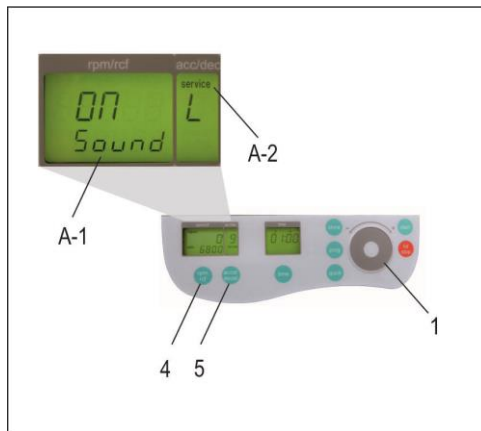

Figure 4
pressing the key, "rpm/rcf" (4), the word "On" flashes, and the sound can be switched off with the control field (1), (see Figure 4).
The list of the last 99 error messages can be looked over by pressing the key "rpm/rcf" (4) and leaf through it with the control field (1). The respective error codes appear in the display "rpm/rcf" (A-1) (see Figure 4). The first two numbers indicate the appeared errors ongoing from 00 to 99, the last two numbers indicate the error code. Please refer to, Table 5: Error Messages, (see APPENDIX IV).